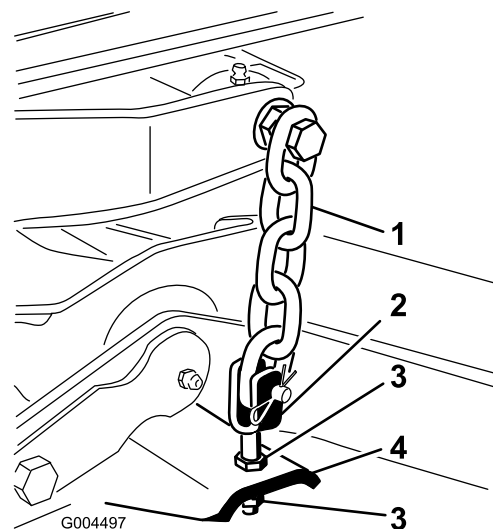

Figure 75
7. Adjust the jam nuts securing the rear deck yokes/chains to raise the rear of the deck so that the blade pitch is set to 8 mm (5/16 inch) (Figure 75).